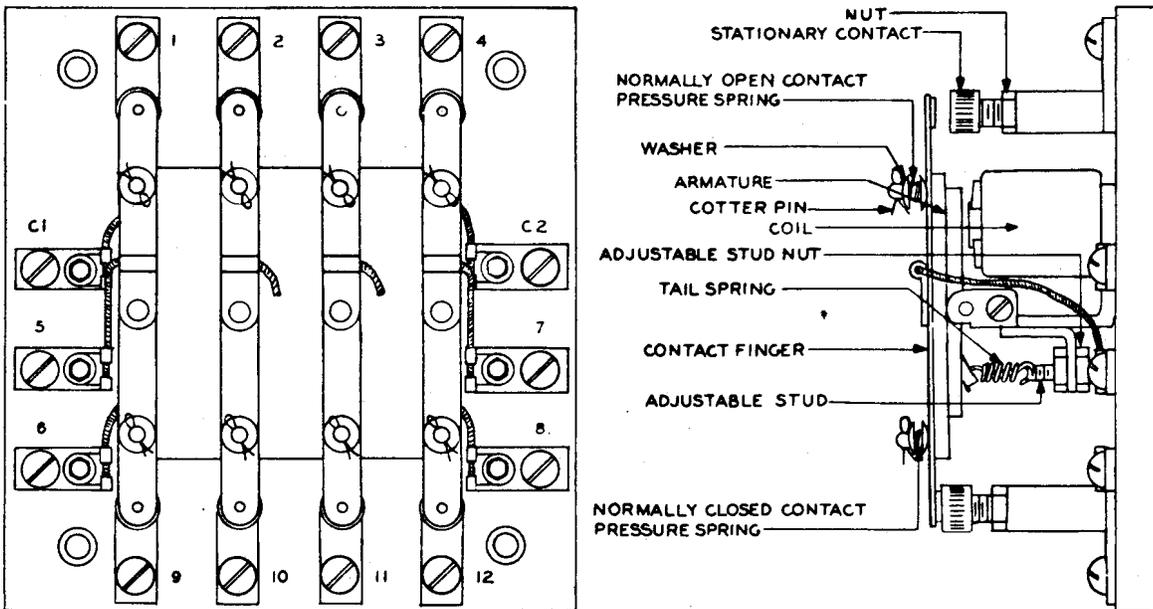

Fig. 2 - Control Relay (WARD LEONARD)
3.10 Contact Finger - Moving Contacts: (See Fig. 2.) To replace a moving contact, it is necessary to replace the complete contact finger which includes the moving contacts and the pigtail. To replace a contact finger, remove the cotter pins using the pliers, lift off the washers and the contact pressure springs, disconnect the pigtail from the terminal, and remove the contact finger complete with the pigtail. Substitute the new contact finger and reassemble in the reverse order.
3.11 Tail Spring: (See Fig. 2.) To replace the tail spring, unscrew the adjustable stud nut from the adjustable stud. This will release the adjustable stud. Unhook the tail spring at both ends, using the pliers. Substitute the new tail spring and reassemble in the reverse order.
3.12 Stationary Contact: (See Fig. 2.) To replace a stationary contact, loosen the nut with the No. 417A wrench and unscrew the stationary contact. Substitute new part.
3.13 Coils: (See Fig. 2.) Mark and disconnect the coil leads from the terminals. Remove the bottom tail spring adjustable stud nuts. Disconnect all pigtail leads from the terminals. Remove the armature pivot pins. Armature and contact finger assembly can now be removed from the relay. Remove the cotter pins and core washers from the cores. Slip coils out. Replace the new coil (or coils) and reassemble in the reverse order.
3.14 Armature: (See Fig. 2.) To replace the armature remove all contact fingers as outlined in 3.10 except it may not be necessary to remove the pigtailed from the terminals. Release the tail spring at the end nearest the armature as outlined in 3.11. Remove or release the armature pin or screw. Substitute the new armature and reassemble in the reverse order.